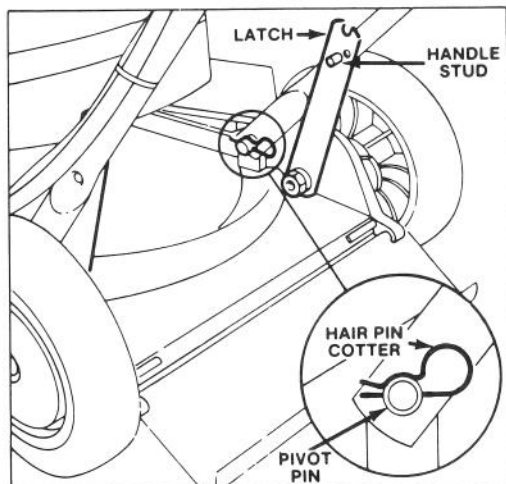

Figure 1
1. LOWER HANDLES (Fig. 1) — Push ends of handle together and install on pivot pins. Move handle and latches backward until handle studs snap into center hole. Push hair pin cotter through holes in pivot pins.